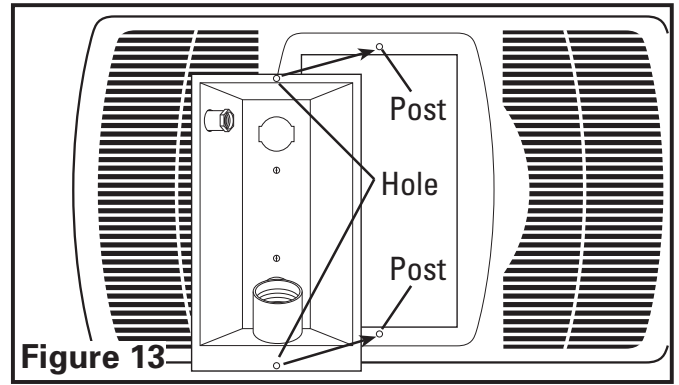
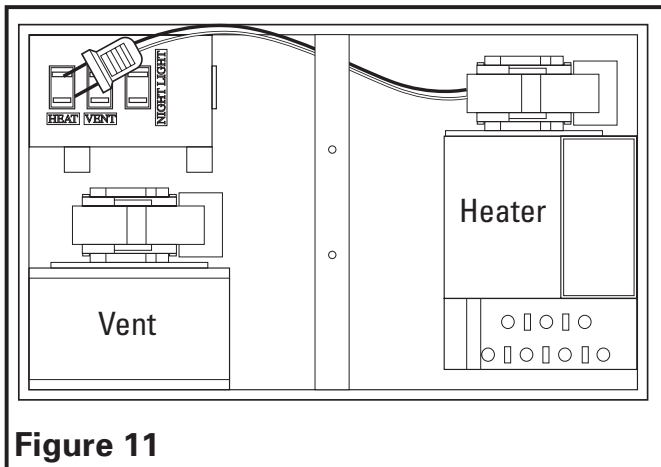

Figure 13
Figure 11
1. Insert the plug from the heating unit into the receptacle marked "HEAT", and the plug from the fan into the receptacle marked "VENT"(Figure 11).
3. Install light reflector into grill by lining up the posts on grill with the holes in light reflector (Figure 13). Raise light reflector and grill up to housing and insert plug from light into receptacle marked "LIGHT" (located on the side of the wire compartment) and insert plug from night light into receptacle marked "NIGHT LIGHT" (Figure 11).